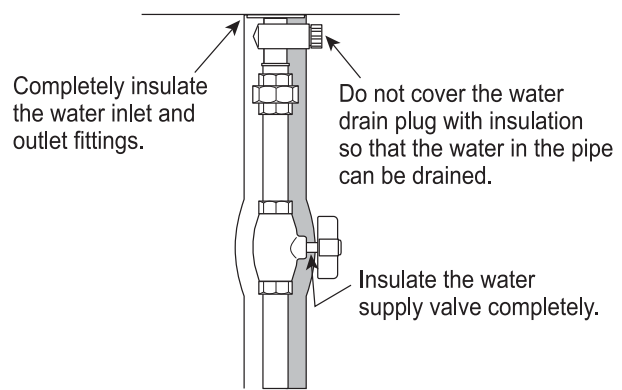

Fig. 24
- Be sure to also completely insulate the water supply valve and the cold and hot water connections on the water heater (refer to the Fig. 24).
- Do not cover the water drain plug with insulation so that water in the pipe can be drained (refer to the Fig. 24).